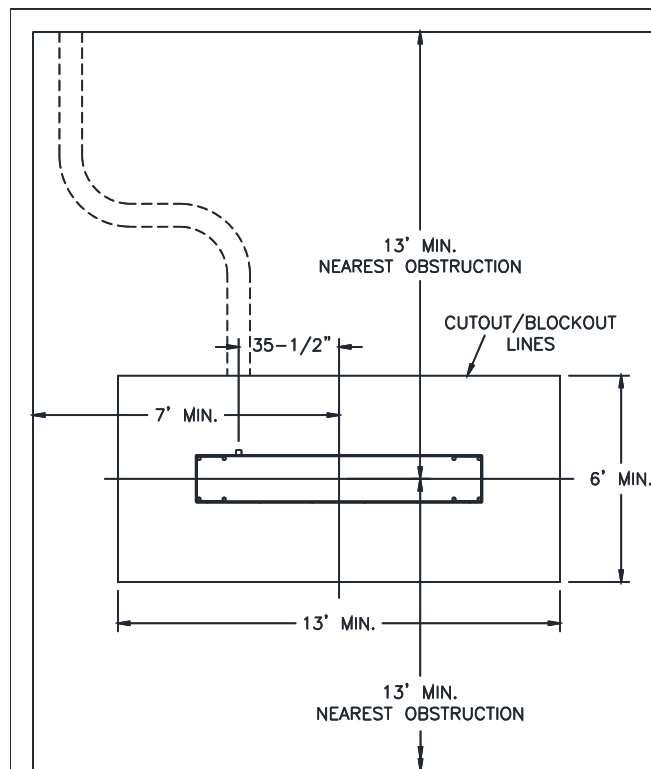
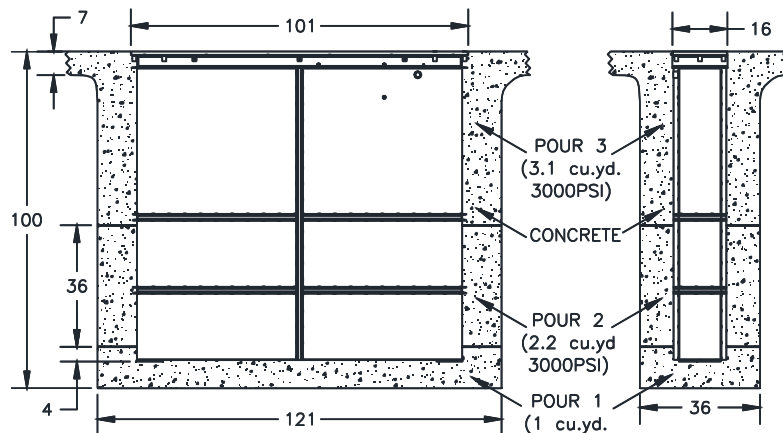

Fig 2 – Block Out and Location
Fig 3 – Concrete Dimensions
Locate lift to allow plenty of working room on all sides. In front of the bay, allow room for workbenches, aisles, lubrication equipment or other obstructions. Observe the recommended minimums, **Fig 2**. Check overhead clearances as ordinarily 12 feet is ample for automobiles. The power unit may be installed on the nearest wall or under work bench. The power unit should be located out of the working area around the lift and vehicle, but close enough to allow good visibility while operating the lift. Mark cut outs and centerlines on existing floor or excavation site.
Refer to **Fig 2** for dimensions, to saw cut an existing facility floor or to block out a new construction floor. Also, it will be necessary to break out a trench 6"-8" wide by 12" deep to run the PVC chase. It is recommended to mark the path and area before cutting. For excavation dimensions see **Figure 3**. All depths are measured from the finished floor level. Failure to comply will void the warranty. Hydraulic and air lines from the lift should be recessed under the slab in a 2" sch. 40 PVC chase.
2. Using a chain hoist and tripod, fork lift, crane, etc. for lifting; lower the lift / containment assembly in the excavation being sure the PVC inlet hole is toward the power unit, until the top of the assembly is 1/8" to 1/4" above finished floor level and aligned with the previously determined center lines. Refer to **Fig. 2 and 3**.
7. Recheck plumb and elevation, then begin back fill with concrete from short sides of lift. A 3000psi concrete mix should be wet to allow it to flow under and around the lift. Pour until concrete covers the bottom four inches of the cassette and allow 12-hours set up time. See **Fig 3 and Fig 6**.
8. Recheck plumb and backfill with 3000psi concrete approximately 3ft, and once again recheck plumb. Allow time to set up before moving to next step. See **Fig 3 and Fig 6**.